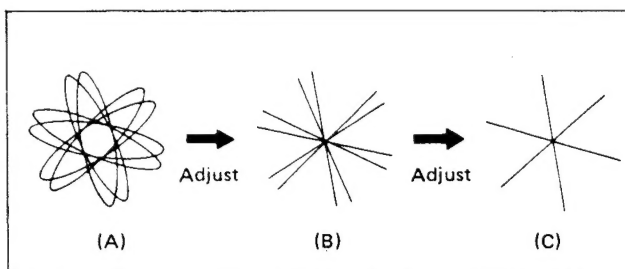

Fig. 5-18
4. Connect jumper clip between pin (4) of IC301 and pin (5) of IC301.
5. Apply bias +12V to pin (26) of IC301.
6. Adjust T302 to minimize resurge waveforms on the oscilloscope. [See : Fig. 5-18-(A)]
9. Remove the short jumper between pin (4) and pin (5) of IC301.